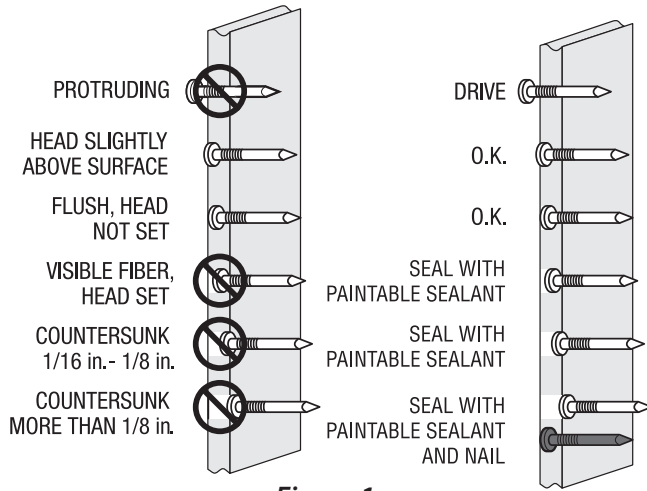

Figure 1
- Avoid countersinking nails or rupturing the surface of the siding. If countersinking occurs, seal nail prior to painting (see Fig. 1).
- Seal all overdriven nails (see Fig. 1).